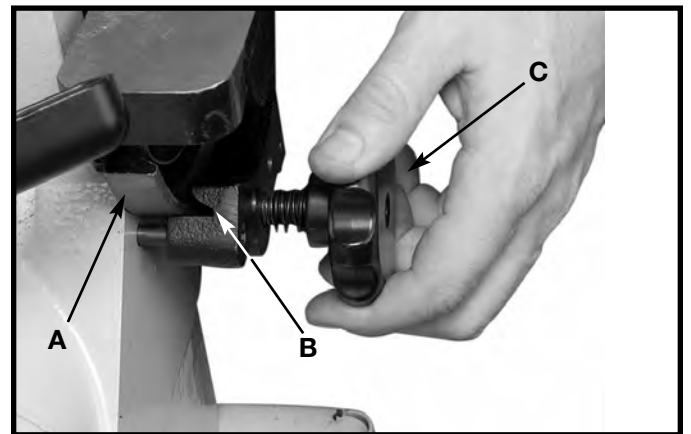

Fig. 13A
5. Place the table in position. Confirm that the table trunnion (A) Fig. 13A rests in the groove (B) of the attaching clamps. Tighten the knob (C)
7. Tighten the knob (C) Fig. 13A.